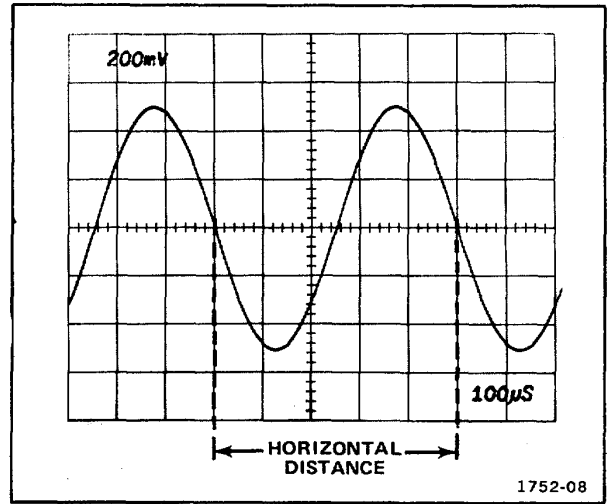

Figure 2-7. Measuring the time duration between points on a wave-form.
5. Set the TIME/DIV OR DLY TIME switch to the fastest sweep rate that displays less than 8 divisions between the time measurement points (see Time Measurement discussion and figure 2-7).
Example: Assume that the distance between the time measurement points is 5 divisions (see figure 2-7), and the TIME/ DIV OR DLY TIME switch is set to .1 ms.
Example: The frequency of the signal shown in figure 2-7 which has a time period of 0.5 millisecond is: